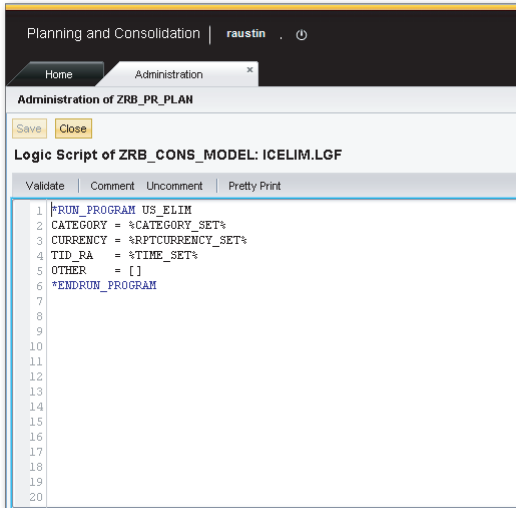

Figure 9.18 Configuring Intercompany Eliminations—Part E
6. Create the standard logic script ICELIM.LGF (if one does not already exist) to execute the U.S. intercompany eliminations, as shown in Figure 9.18.